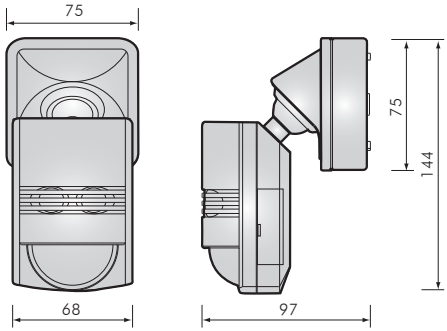

FIG.1
2.3 Dimension: 144 x 75 x 97mm (See FIG.1)